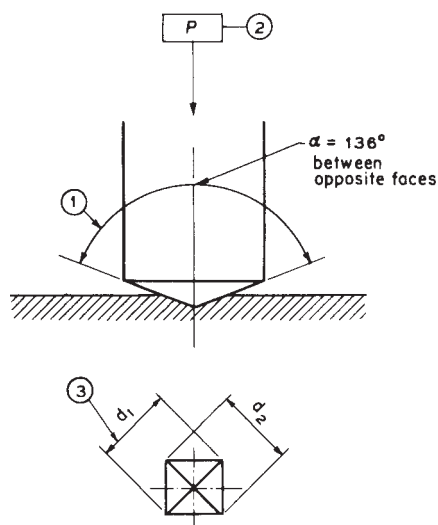

FIG. 1 Vickers Hardness Test (see Table 1)
3.3 *Vickers hardness number, HV*—a number related to the applied force and the surface area of the permanent impression made by a square-based pyramidal diamond indenter having included face angles of 136° (see Fig. 1 and Table 1), computed from the equation:
TABLE 1 Symbols and Designations Associated with Fig. 1